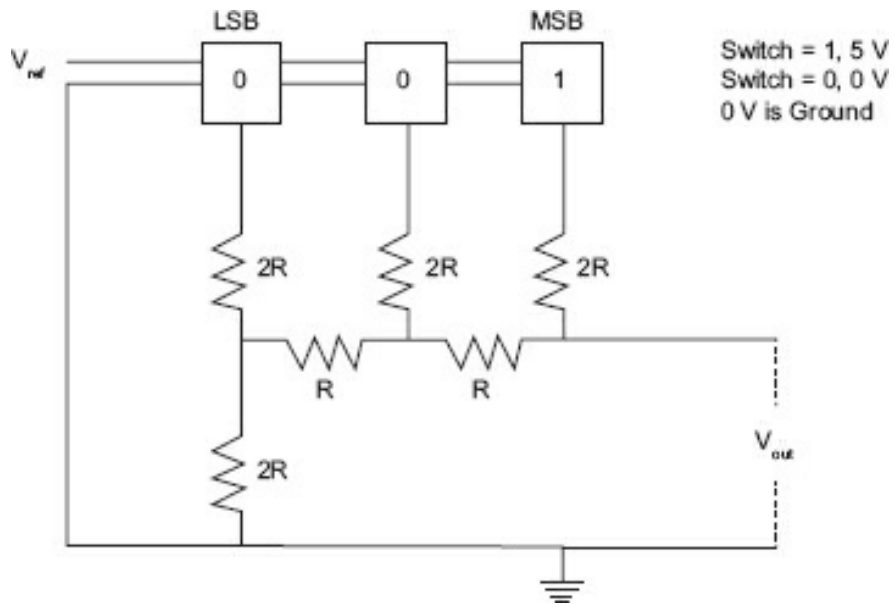

Figure 8-9a. R-2R ladder circuit with switch in position 100.
Figure 8-9a illustrates an R-2R ladder (only a 3-bit ladder is shown to ease explanation of its operation). If we assume the binary value for half of the full-scale range (100), the equivalent circuit is developed through a series of steps illustrated in Figure 8-9a, b, c, d, e, and f. The development of other combinations is left to the reader. This is an exercise in Ohm's law. Previously, you learned that if two resistors of the same value are in parallel, the equivalent resistance is half the value. In this case, if you have $2R$ and $2R$ in parallel then the equivalent is R .